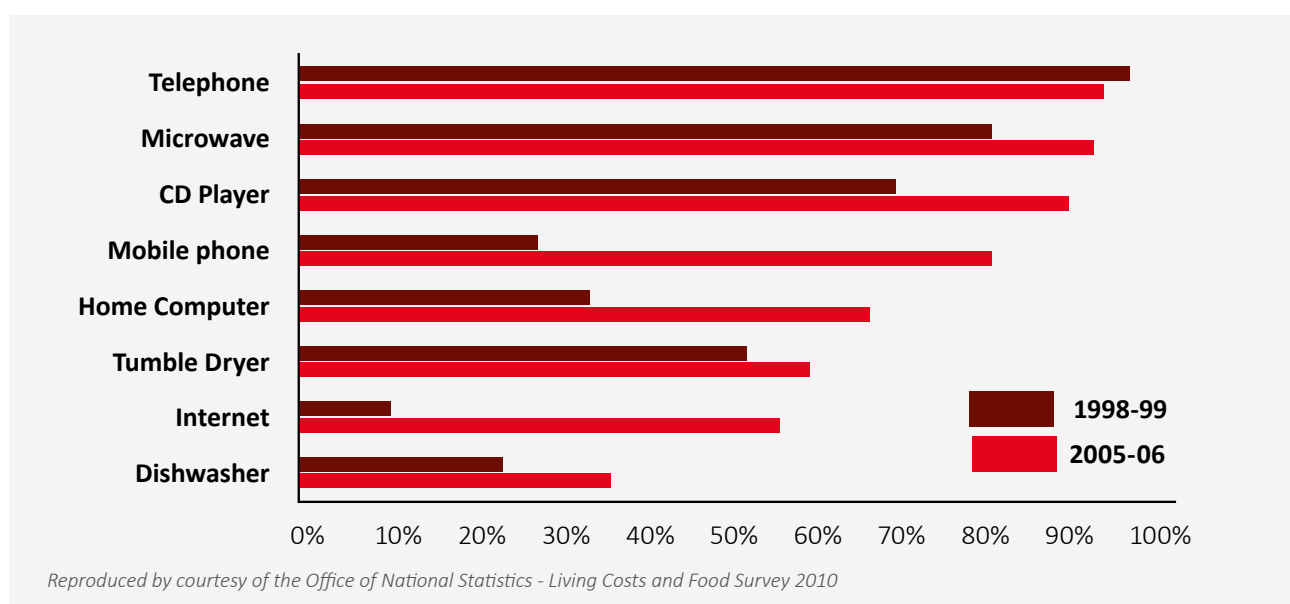

Fig 1. Percentage of UK households with selected consumer durables
**Fig 1** below illustrates the significant increase in consumer equipment, which has driven the need for an increased number of socket-outlets.